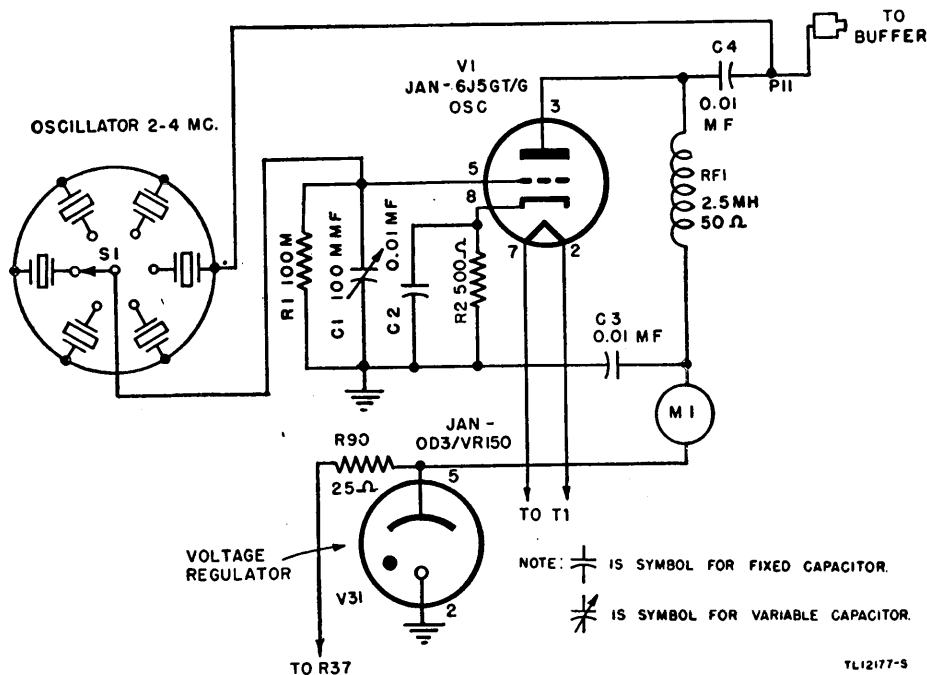

Figure 41. Crystal oscillator, functional diagram.
*a. CRYSTAL CONTROLLED.* (1) The crystal-controlled Pierce oscillator circuit is shown in figures 41 and 84. The oscillator provides the source of the r-f energy to be amplified through the succeeding stages of the transmitter. The crystal selector